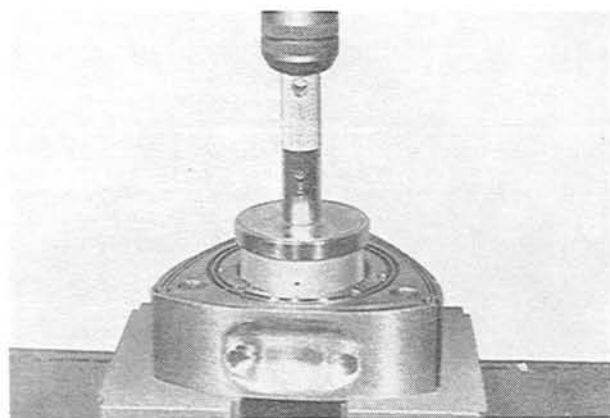

Fig. 1-53 Installing rotor bearing
(2) Be careful not to damage the lip of the oil seal. Use a certain protector shown in Fig. 1-53.